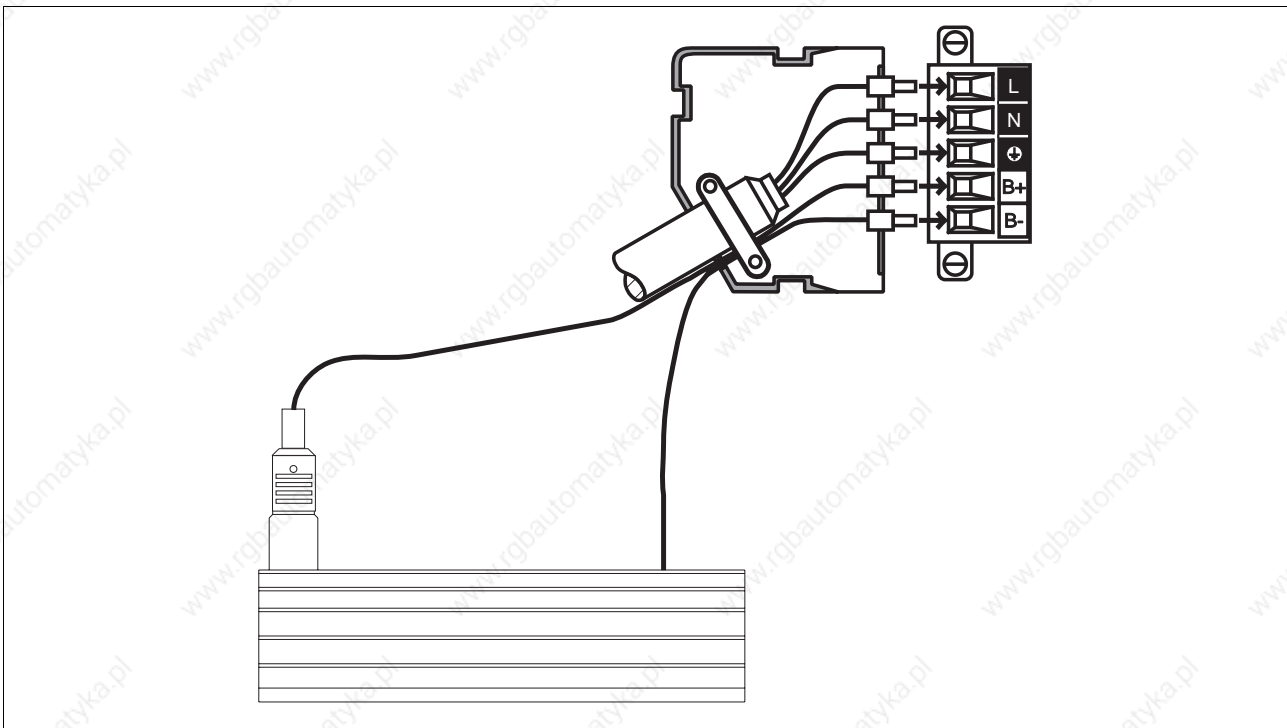

Figure 6-2 Ballast Resistor Connection
2. Loosen Screws and remove mains connector (see figure 6-2).